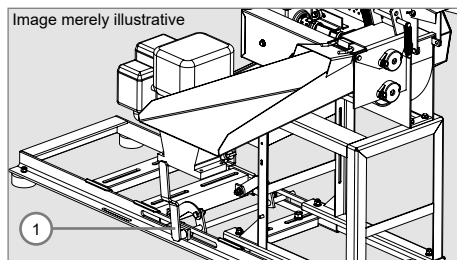

Figure 7
- ✓ The engine shall only be turned on if the belt stretcher lever (1) is in the relief position, that is, without tensioning the belt, as shown in Figure 7.